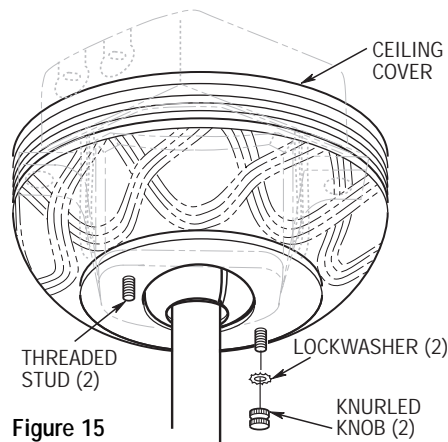

Figure 15
- 5. Lift the ceiling cover up to the threaded studs and turn until the studs protrude through the holes in the ceiling cover (Figure 15).
- 6. Secure the ceiling cover in place by sliding lockwashers (supplied) over the threaded studs and installing the two knurled knobs (supplied). (Figure 15). Tighten the knurled knobs securely until the ceiling cover fits snugly against the ceiling.